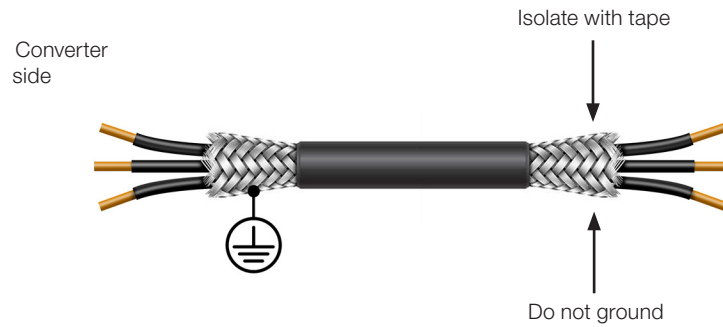
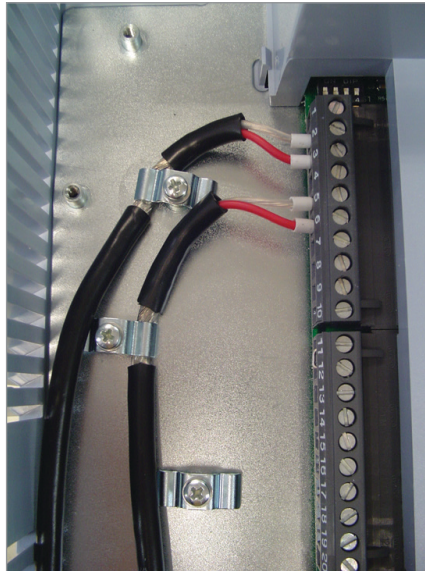

Figure 3.27: Shield connection
Figure 3.28: Example of shield connection for the control wiring and synchronism
4. The proper connection of the cable shield is shown in Figure 3.27 on page 3-33. Figure 3.28 on page 3-33 shows how to connect the cable shield to the ground.